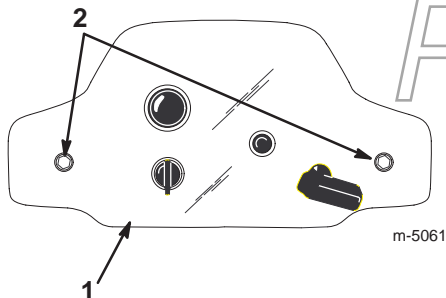

Figure 17
- Remove the 2 mounting screws that secure the control panel to the housing (Fig. 17).